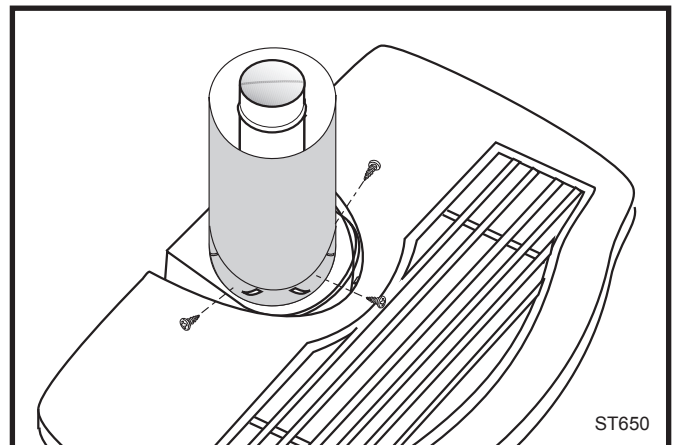

Fig. 21 Fasten outer pipe with #12 x 1/2" sheet metal screw.
- 4. Install the Outer Adapter Pipe.** Insert the pipe over the stove flue collar, keeping the vertical seam oriented to the back of the stove. Also, be sure to align holes on the pipe with the holes on the flue collar of the firebox. Fasten the pipe to the holes in the flue collar with the #12 x 1/2" sheet metal screws provided. (Fig. 21)